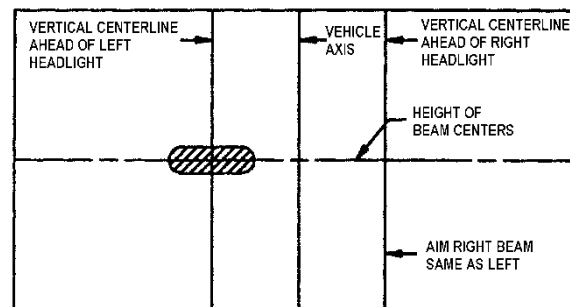

FIGURE 87: UPPER BEAM HIGH-INTENSITY ZONE PROPER LOCATION ON SCREEN
- High beam headlamps are aimed so that the center of the high-intensity zone is located at the horizontal and straight ahead vertically (Figure 87).